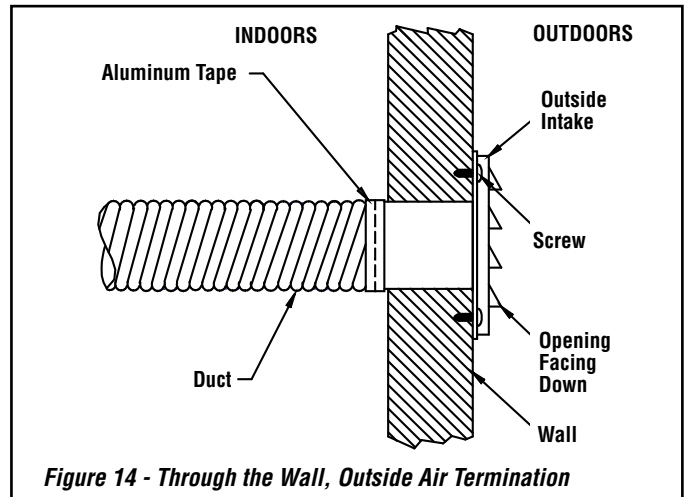

Figure 14 - Through the Wall, Outside Air Termination
- B) The air intake register must not be installed more than ten (10) feet above the base of the stove.
- Make a 4-1/4" hole in the outside wall of the house at the chosen location. From outside, place the outside air register in the hole (open side down) and fasten the register to the wall, with screws as shown (*see Figure 14*).